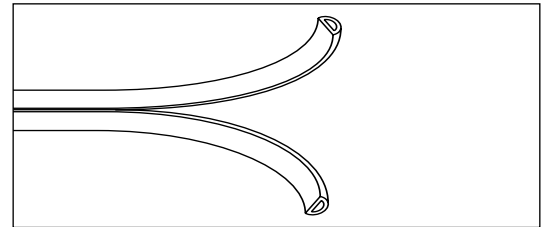

FIGURE 2. Carefully separate seal strip. **DO NOT CUT!**
- Carefully separate (NOTE: PULL APART - DO NOT CUT) seal strip. (Fig. 2)